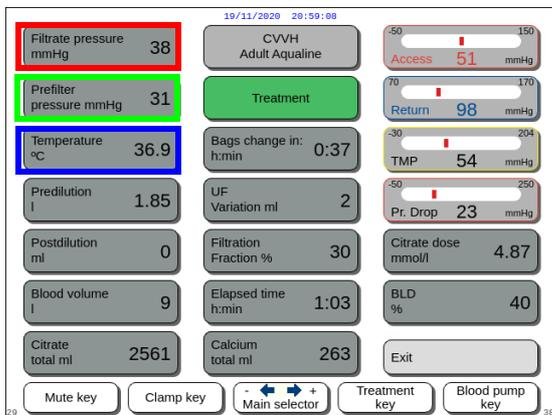

Fig. 167
- *Filtrate pressure (mmHg)* (red frame Fig. 167)
- *Pre-filter pressure (mmHg)* (green frame Fig. 167)
- *Temperature (°C)* (blue frame Fig. 167)